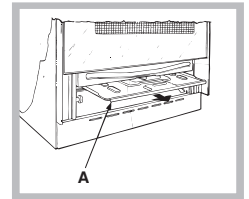

Fig. 2
2. Slide out the protection panel A (see figure 2).